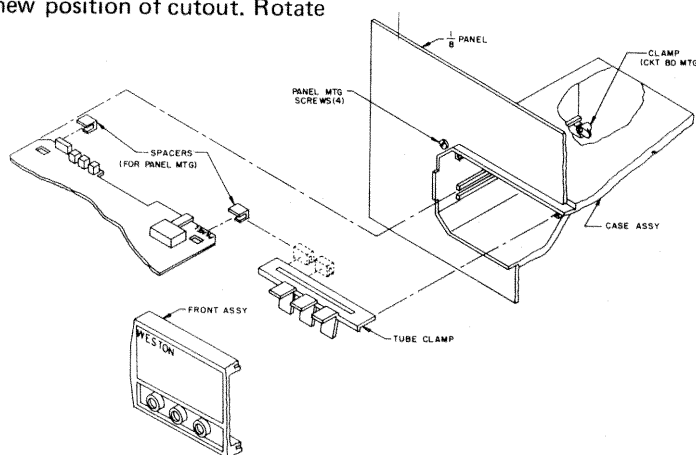

Figure 5. Panel Mounting (Optional)
8. To remove the circuit board, rotate two screws at rear of case 1/2 turn counterclockwise. This will rotate two clamps freeing board from case. (See Figure 5.) Remove edge connector guard.
10. The board must be advanced 1/8 inch forward in case to allow for panel mounting clearance. One-eighth inch spacers have been provided on the tube clamp. Remove tube clamp and break off L-shaped spacers at its rear edge. (See Figure 5.) Trim spacer edge with razor blade.